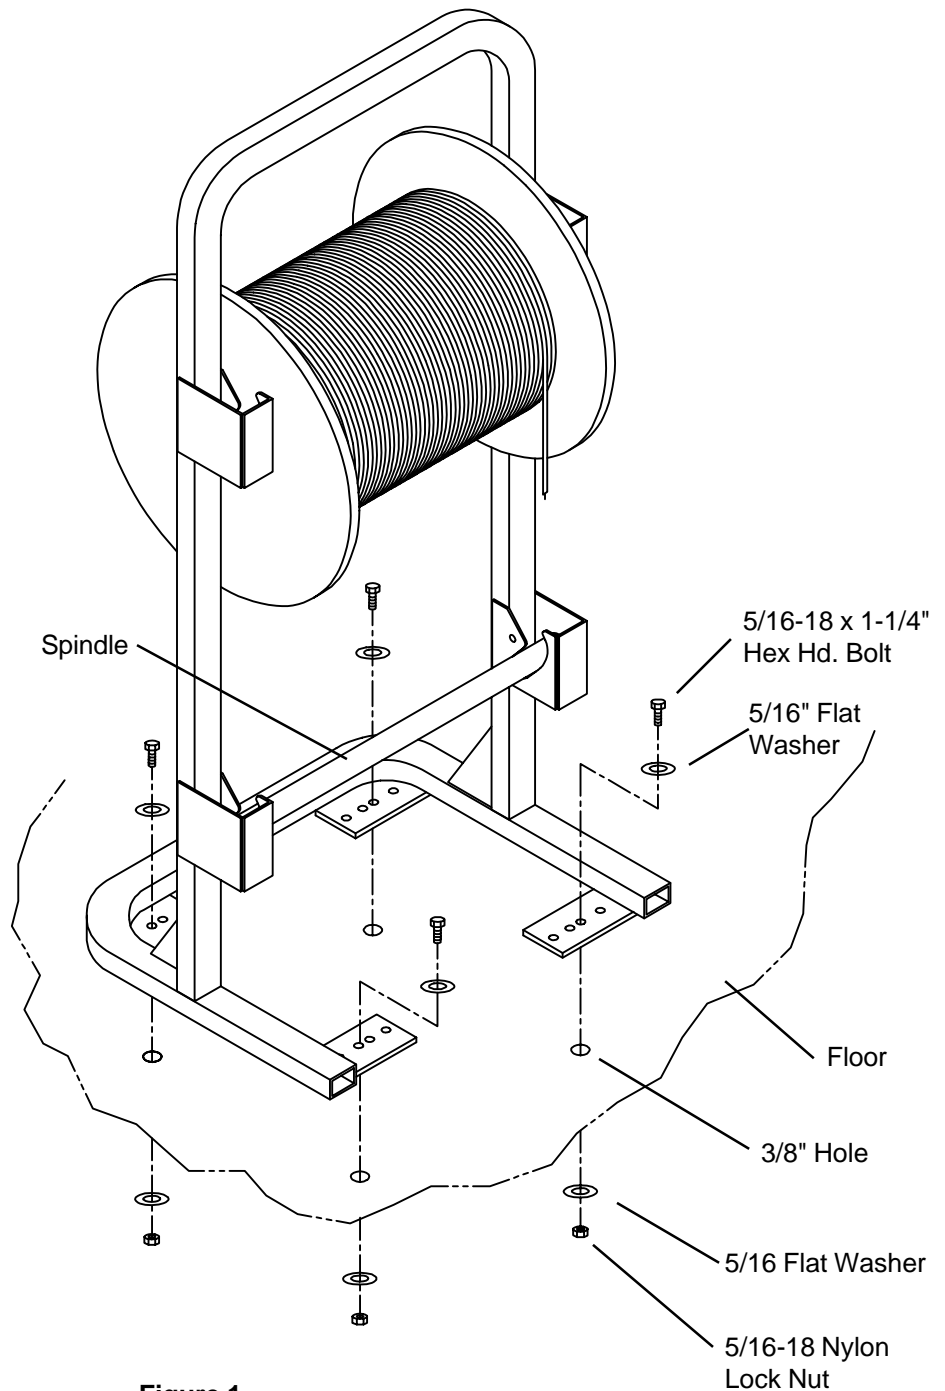

Figure 1.
3. Fasten the Wire Spool Rack to the floor. (See Figure 1.)